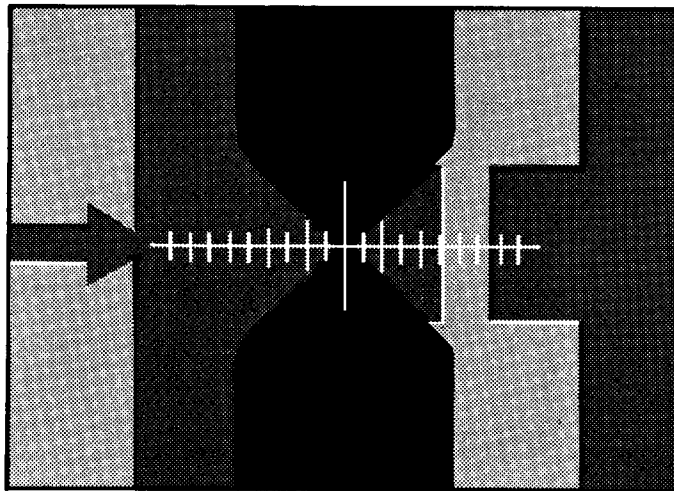

Figure 4-6. Video Display of Surface Image
7. Press $\Delta\nabla$. The stylus will lower on to the calibration standard. Adjust the optics height knob until the stylus tip is positioned on the X-axis of the reticle (Figure 4-6). Adjust the illumination to obtain the required contrast by using the small knob on the front of the Scan Head.
8. Orient the calibration standard until the video display matches Figure 4-6. During the scan the sample moves from back to front, however the screen will show it moving from right to left since the video image is optically rotated 90° clockwise.